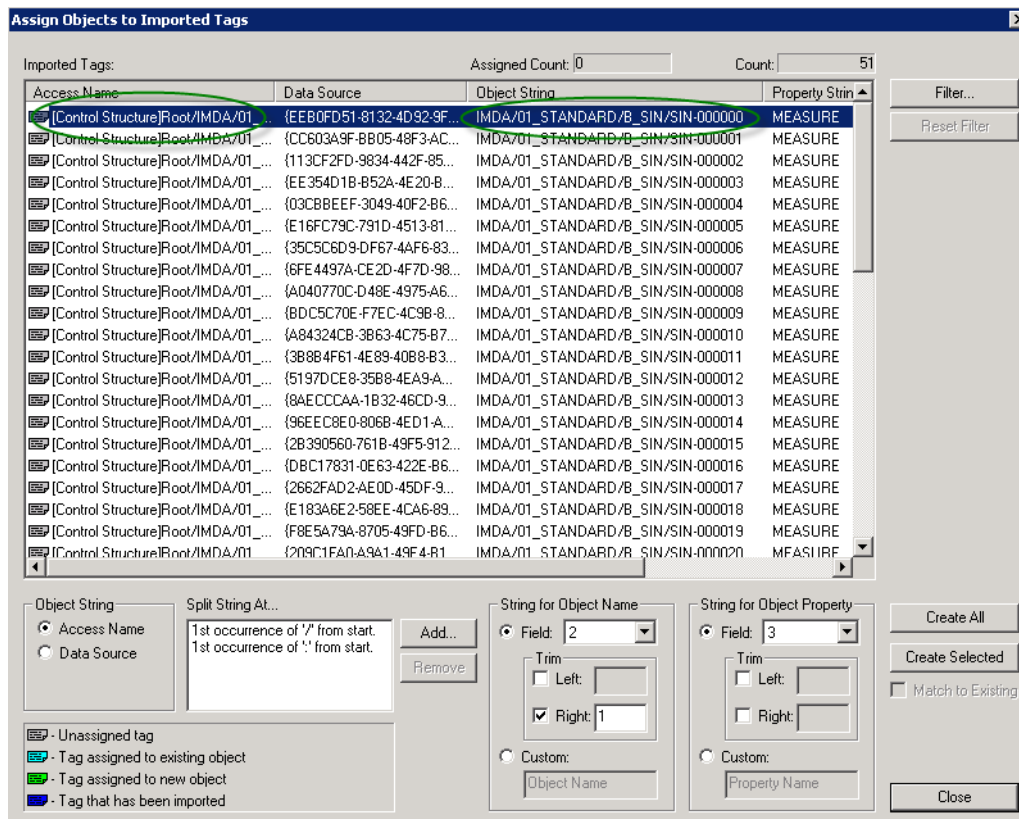

Figure 257. Assign Objects Dialog
- 3. Click **Assign Objects**. This displays the Assign Objects dialog, Figure 257. This dialog lists all logs that have been imported from the remote history node and are now in the resulting xml file. The status of each log is indicated by a color-coded icon in the Access Name column. The key for interpreting these icons is provided in the lower left corner of the dialog.